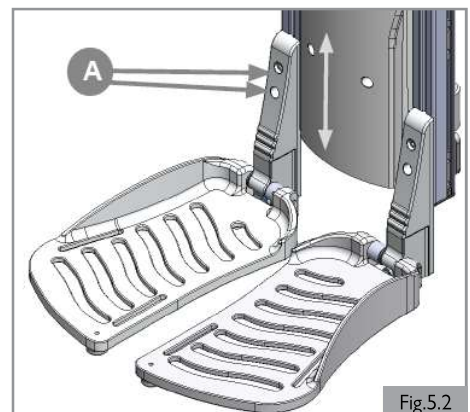

Fig.5.2
1. Loosen the 2 bolts (A) with a 5.0 mm Allen key. (Fig. 5.2).